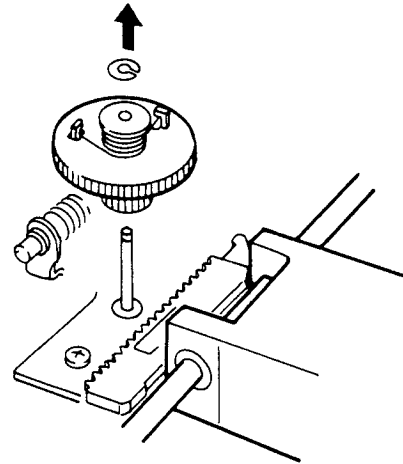

Figure 18
2. Remove gear A and B assembly shown in Figure 18 by removing one washer.